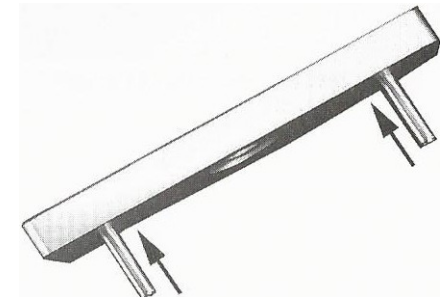

Figure 12. Seating the Roll Pins
2. Using a hammer, TAP the roll pins into the strike plate until seated (see Figure 12, "Seating the Roll Pins").